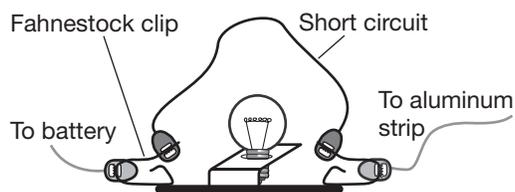

Figure 3.
- Standing away from the balloon, create a short circuit by attaching each end of a fourth connector cord to the clips on the lamp receptacle (see Figure 3). The bulb should go out or become very dim.